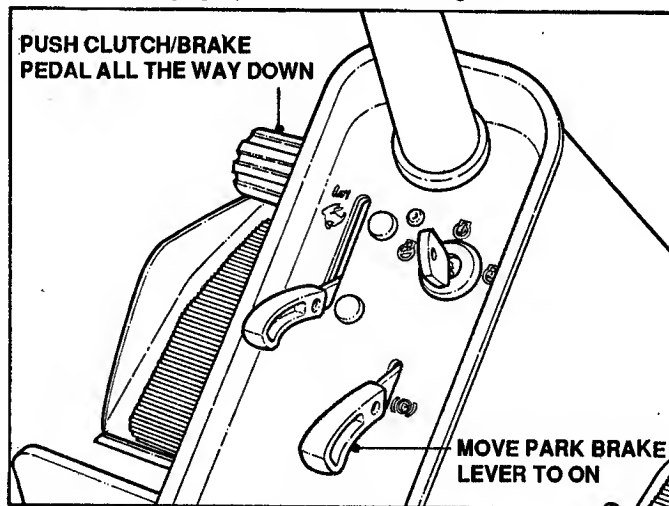

FIGURE 4.16
2. Depress clutch/brake pedal all the way down. Move and hold the park brake lever in the "ON" position and release the clutch/brake pedal to engage park brake. See Figure 4.16.